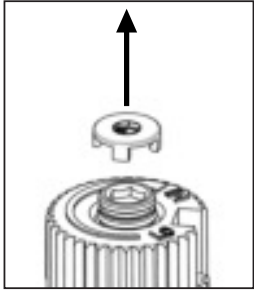

Figure 14: Removing Valve Cap
- Remove the black protection cap from the HI/LO knob (see Figure 14).